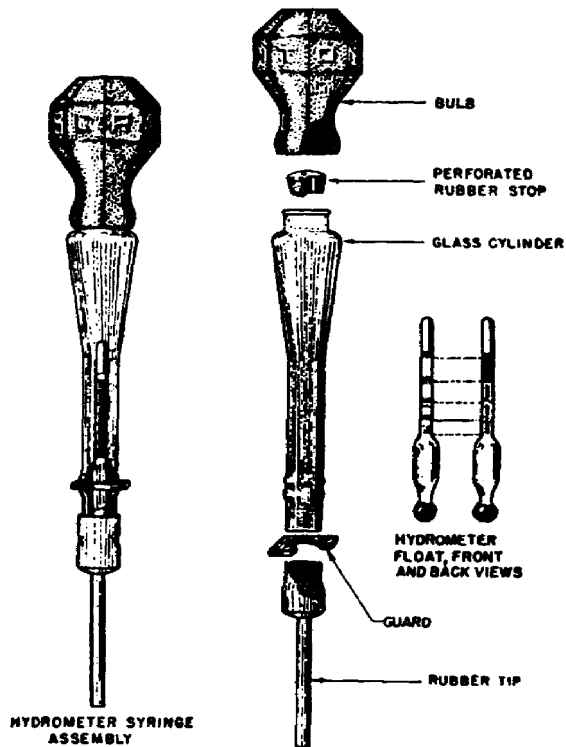

Figure 20. Hydrometer.
a. Since the amount of sulfuric acid in the electrolyte decreases as the battery discharges, the specific gravity of the battery also decreases as the battery's state of charge decreases. By using a testing hydrometer (fig 20) to measure the gravity of the electrolyte, the battery's state of charge can be determined.